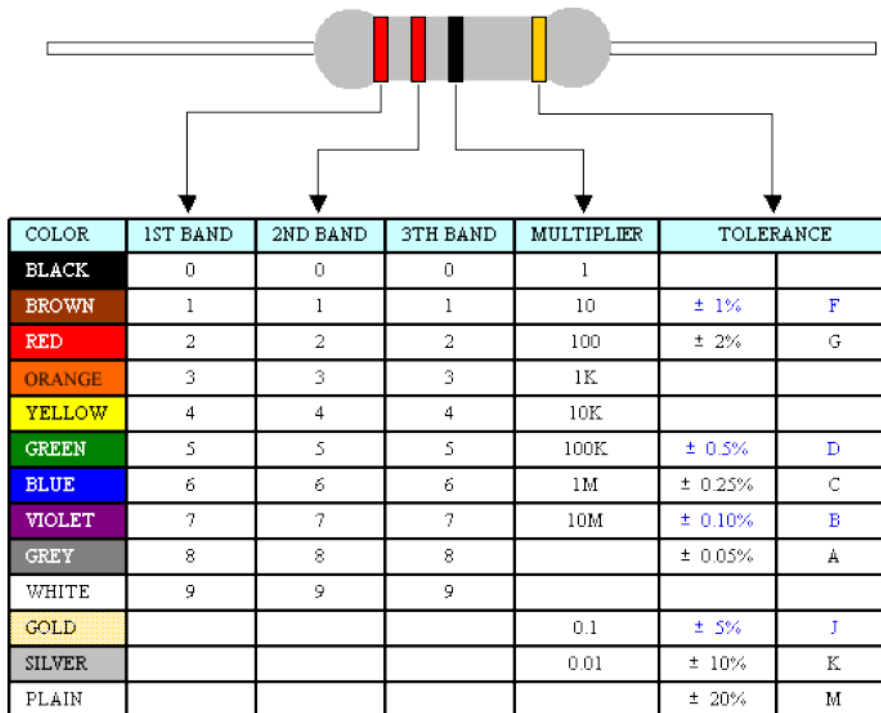

Figure 1.8: Colour code.
See figure 1.8 for the colour code of resistors. Capacitors in the laboratory are not marked with this colour code, but they could be. You can find a more complete version of the colour code here.
- the upper part of the table for items 1 and 2, with the resistor colours you will use (see figure 1.8);